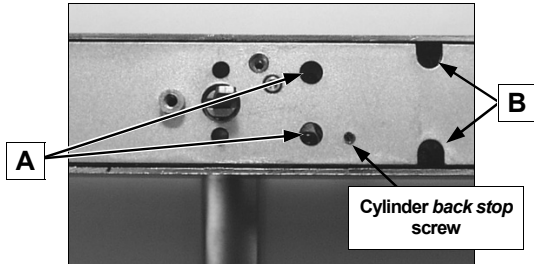

Fig. 1: Install Cylinder if not already installed at the factory
1. **Install Cylinder if not already installed at the factory.** Screws A & B (see Fig. 1) are correctly set at factory. If it is difficult to screw in the cylinder, loosen the two screws near the actuator (B) one turn. If you find the cylinder is still difficult to screw in, then loosen the other screws (B) one turn. **Do not loosen the screws all the way or it may be difficult to replace them properly!** **Note:** The trim is manufactured to use a 1-1/8" or 1/4" Alarm Lock mortise cylinder with a HW-1302 cam. If the cylinder that will be used is longer than 1 1/4", a collar must be utilized. Please see the collar information on the previous page.